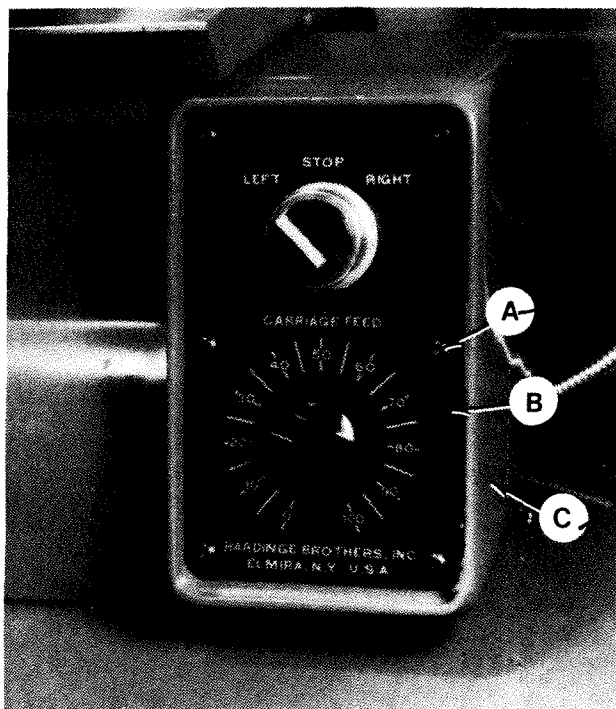

Figure 3.41 - Power Feed Control Box
4. Remove six screws "A" and set power feed panel "B" out of control box "C", Figure 3.41 .
23. Mount power feed panel "B" in control box "C" using six screws "A", Figure 3.41 .